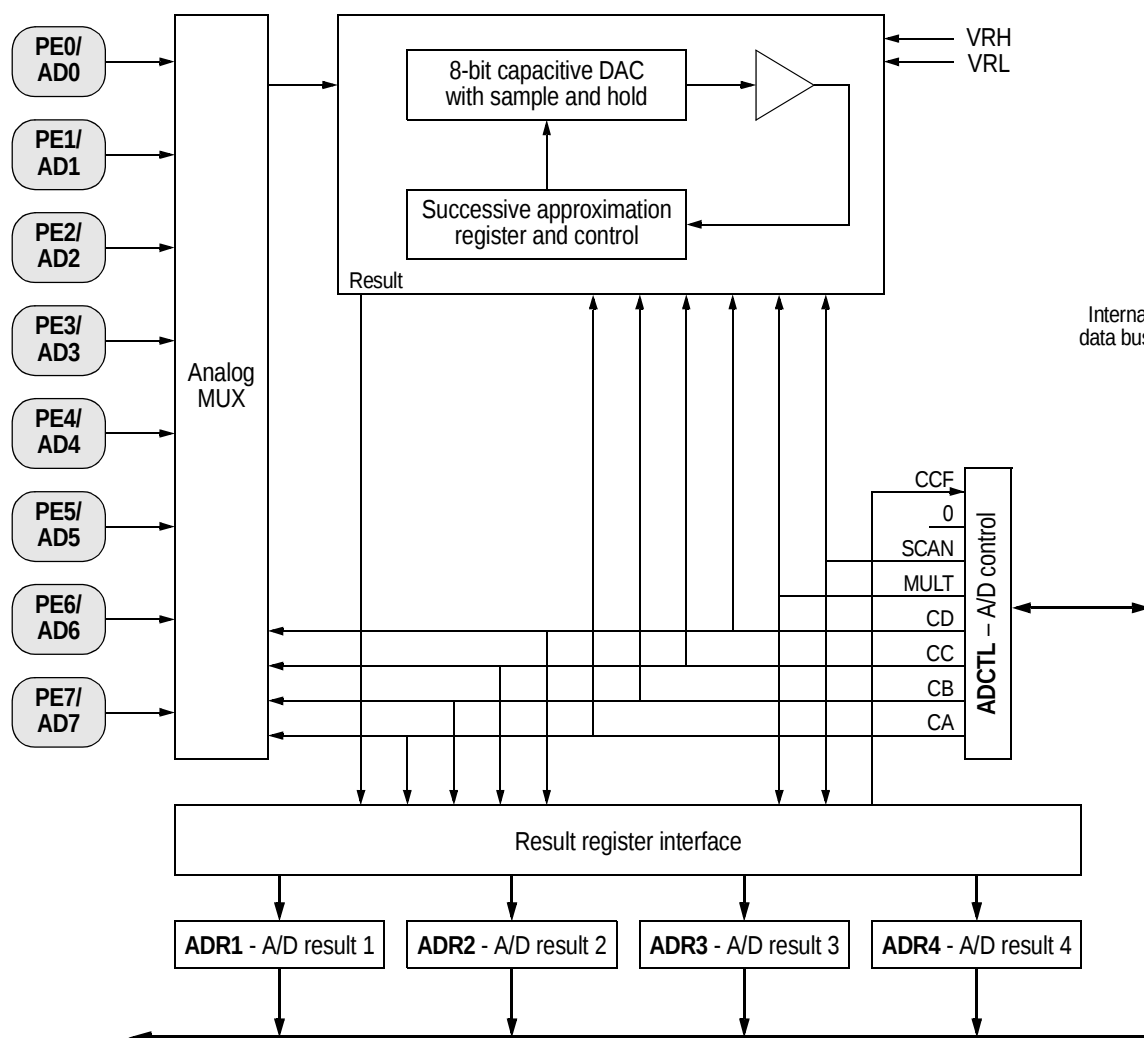

Figure 9-1. A/D converter block diagram
The A/D system is an 8-channel, 8-bit, multiplexed-input converter. The VDD AD and VSS AD pins are used to input supply voltage to the A/D converter. This allows the supply voltage to be bypassed independently. The converter does not require external sample and hold circuits because of the type of charge redistribution technique used. A/D converter timing can be synchronized to the system E clock, or to an internal resistor capacitor (RC) oscillator. The A/D converter system consists of four functional blocks: multiplexer, analog converter, digital control and result storage. Refer to Figure 9-1.